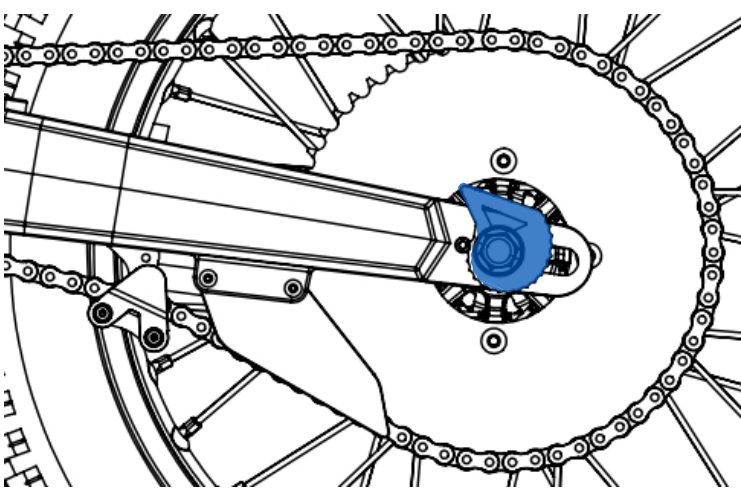

Fig. 17a
- 3- Turn the eccentric adjuster (Figure 17a), to a position depending on the chain slack, and obtain the correct tension. Make sure that the stop is located between the teeth of the eccentric adjuster and the two sides equally. These components must be placed in the correct position according to the required tension level.
Figure 17a shows the configuration corresponding to the minimum position of the wheel, which must be maintained until half of the travel is reached.